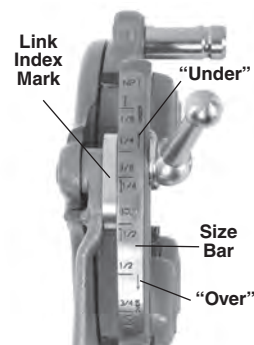

Figure 12 – Adjusting Thread Size
3. Start with link index mark aligned with desired size mark on size bar. On Bolt die heads, set link mark at line in size bar. For bolt threads, set all bolt dies at BOLT line on size bar (Figure 12).